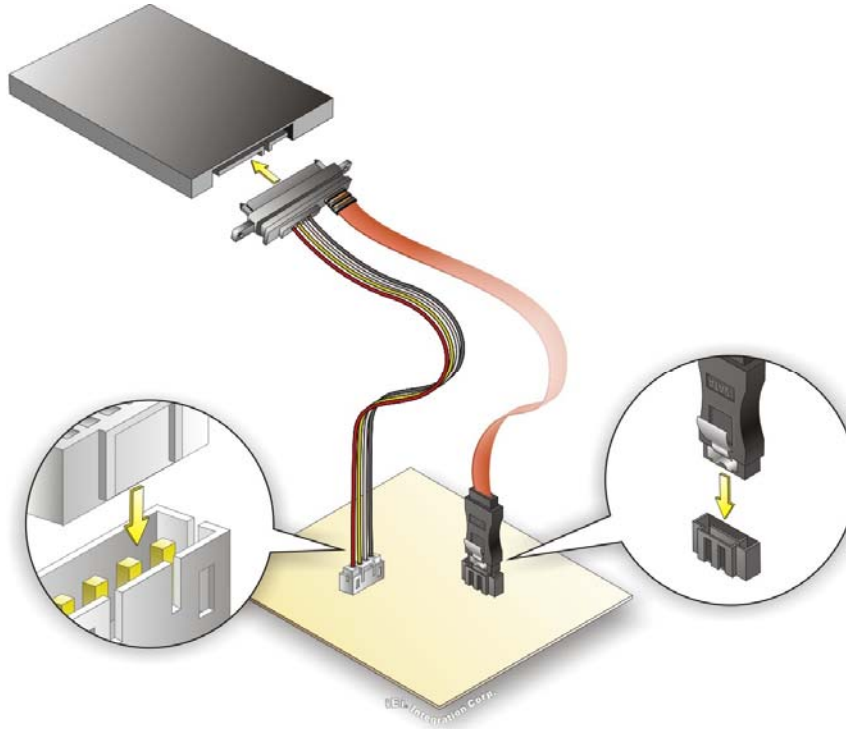

Figure 4-8: SATA Drive Cable Connection
Step 2: **Insert the cable connector.** Insert the cable connector into the on-board SATA drive connector and the SATA power connector. See **Figure 4-8**.
Step 3: **Connect the cable to the SATA disk.** Connect the connector on the other end of the cable to the connector at the back of the SATA drive. See **Figure 4-8**.